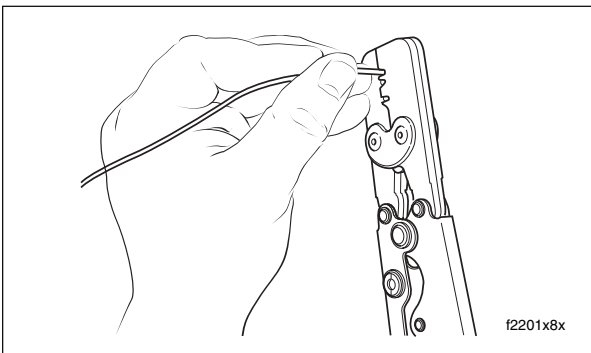

Figure B-32. Crimp Terminal Onto Wire
9. Squeeze handle of crimp tool until tightly closed. Tool automatically opens when the crimping sequence is complete. See Figure B-32.